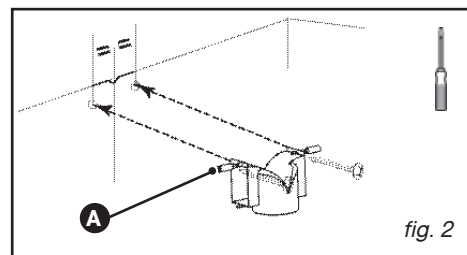

fig. 2
- Using the two screws (fig. 2), attach the plastic smoke deflector against the wall, flush with the ceiling for support. Be careful to centre the deflector in relation to the vertical line drawn on the wall (fig. 2).
For models up to 700 mm, add the 2 struts supplied in the pocket (A/fig. 2)